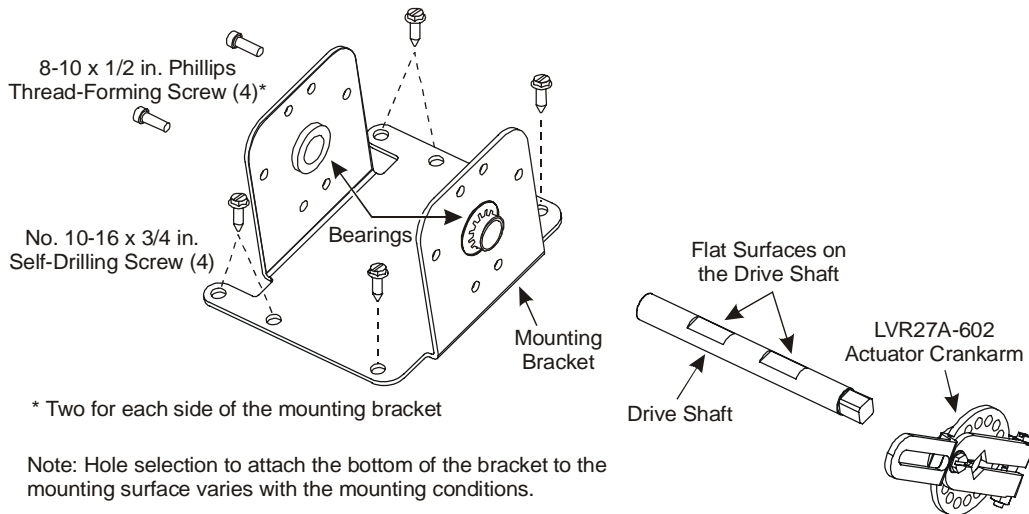

Figure 1: Components of the Mounting Kit
See Figure 1 for a depiction of the mounting kit parts:
2. Insert the drive shaft through the bearings (Figure 1) and the actuator coupler.
3. Rotate the drive shaft so that one of the flat surfaces on the shaft (Figure 1) aligns with the bottom of the coupler set screw.